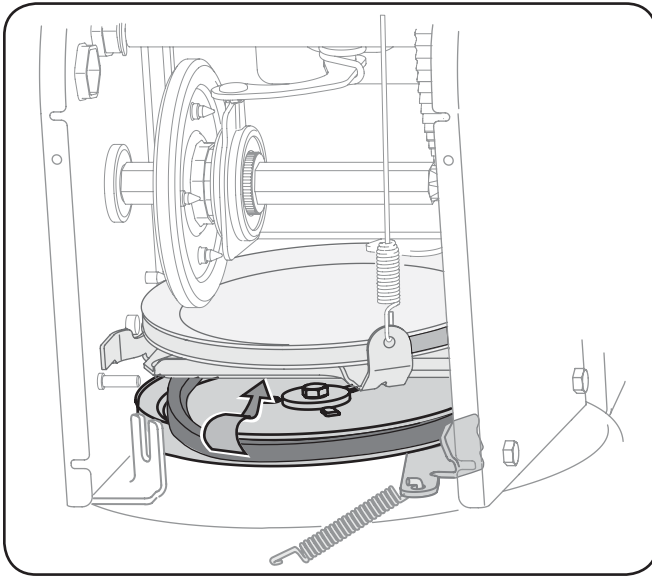

Figure 7-5
7. Remove the belt from around the auger pulley, and slip the belt between the support bracket and the auger pulley. See Fig. 7-5.